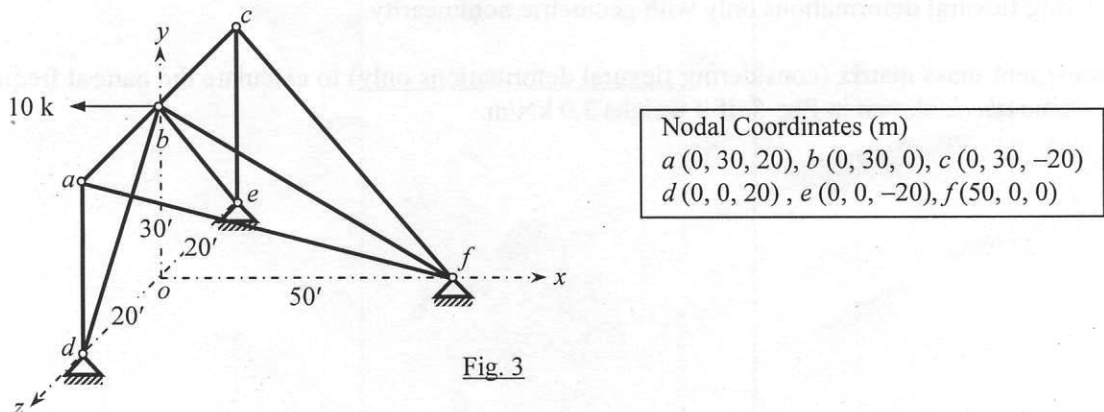

Fig. 3
4. Ignore zero-force members to form the stiffness matrix, load vector and write down the boundary conditions of the 3D truss *abcdef* shown in Fig. 3 [Given: $S_x = \text{constant} = 1000 \text{ k/ft}$].